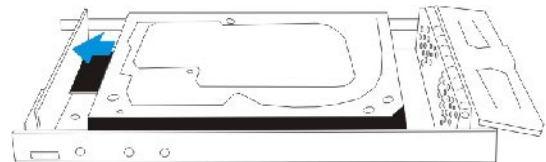

Figure 3: Slide the SATA drive to the Rear of the Subsystem.
Step 3: Connect the drive to the MUX kit. Once the drive is laying flat in the drive tray, slide it towards the rear of the drive tray until a solid connection between the drive connector and the MUX kit connector has been made. (See *Figure 3*)